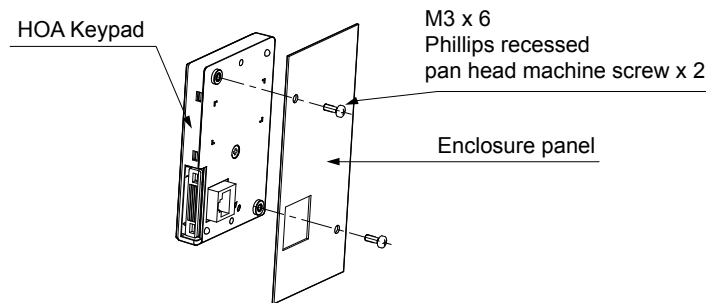

Figure 2.11 External/Face-Mount Installation
2. Position the HOA keypad so the display faces outwards, and mount it to the enclosure panel as shown in **Figure 2.11**.